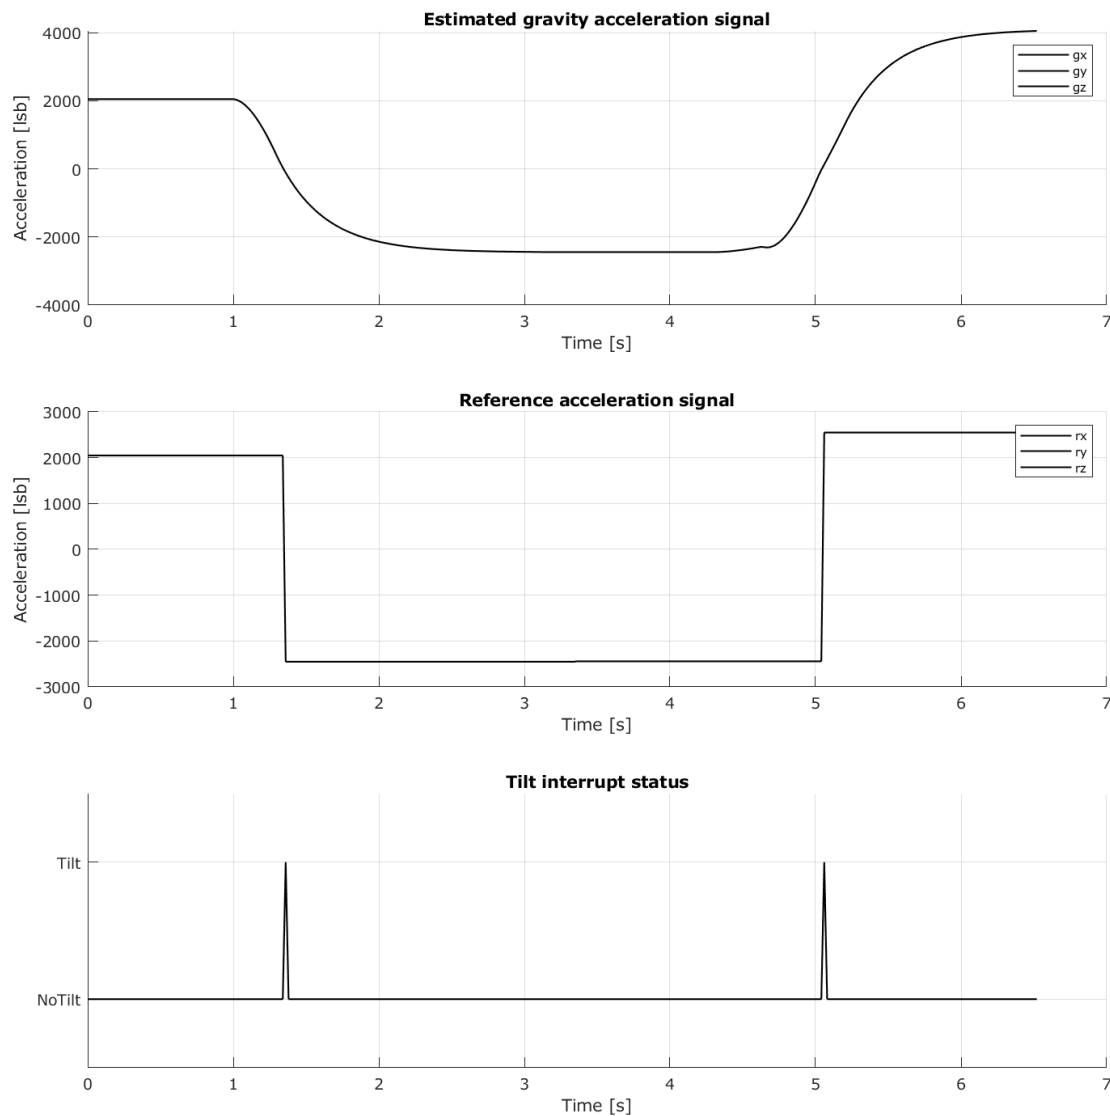

Figure 23 : Functional behavior of tilt detection
**Example** The functional behavior of the tilt detector for default configuration settings is shown in Figure 23.